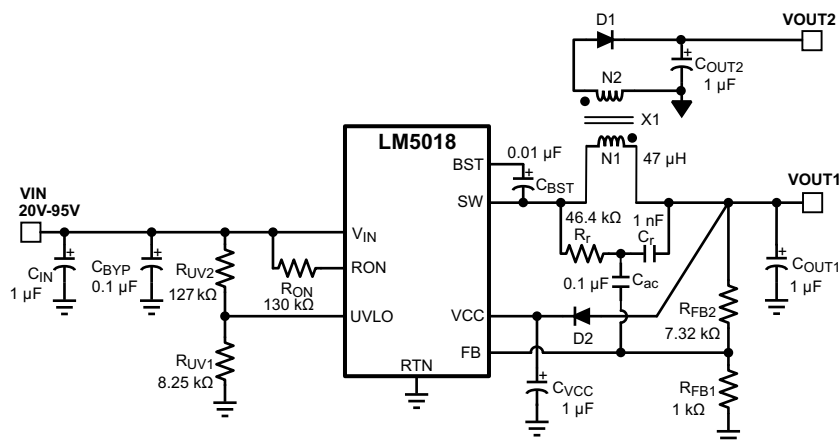

Figure 17. Isolated Fly-Buck™ Converter Using LM5018
An isolated supply using LM5018 is shown in Figure 17. Inductor (L) in a typical buck circuit is replaced with a coupled inductor (X1). A diode (D1) is used to rectify the voltage on a secondary output. The nominal voltage at the secondary output (VOUT2) is given by Equation 20.